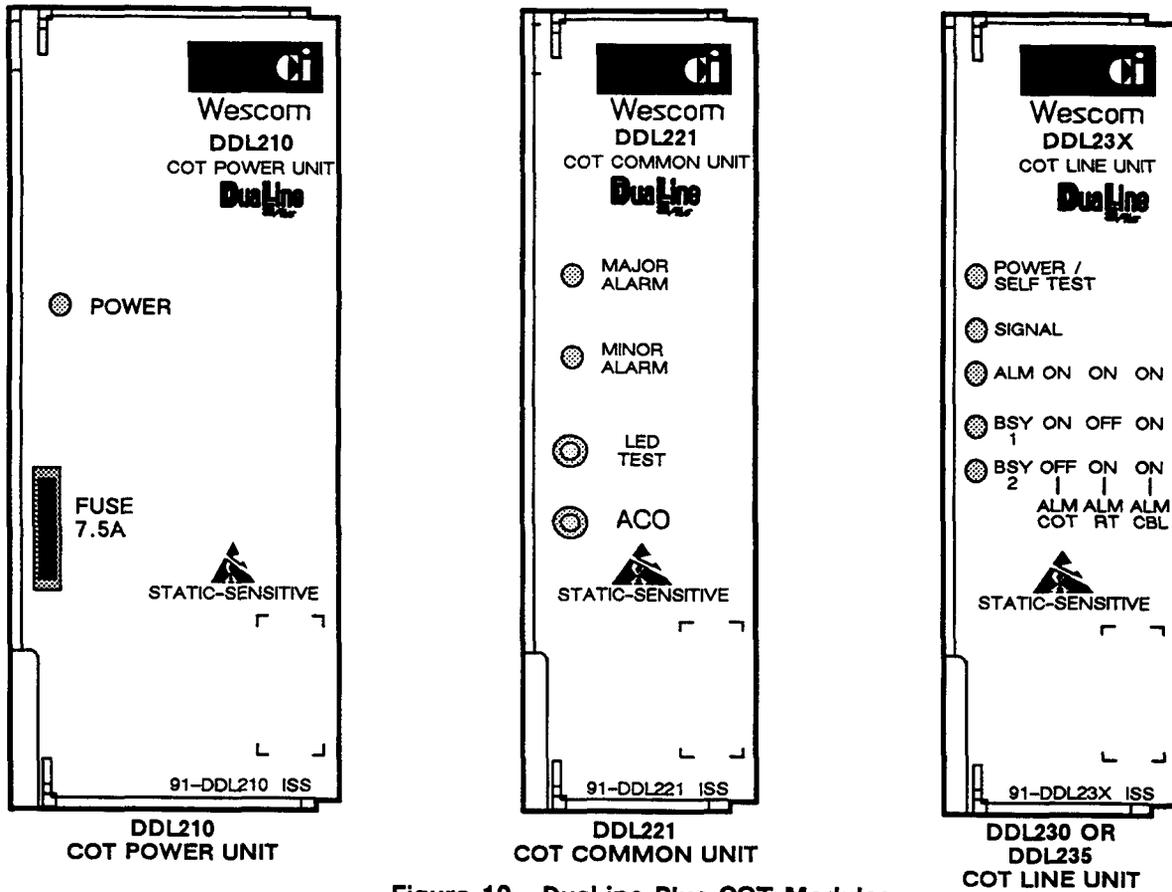

Figure 10. DualLine Plus COT Modules
There are three types of DualLine Plus modules used in the COT shelf; DDL210 COT Power Unit, DDL221 COT Common Unit, and DDL23X (DDL230 or DDL235) COT Line Unit (depicted in Figure 10). One COT Common Unit and one COT Power Unit are necessary for each shelf. They can power and control from one to twelve COT Line Units and their respective DDL1XX Remote Terminals (RT) at the subscriber sites. Each COT Line Unit provides the interface between two POTS lines and the DDL1XX RT.
- (b) Insert and seat the COT Power Unit into its slot (see Figures 10 and 11). The POWER LED lights steady. If it does not light, there is a problem with the module or shelf power. Check the COT Power Unit fuse and shelf power at the shelf power terminal strip.
- (c) Insert and seat the COT Common Unit in its slot next to the Power Unit (see Figures 10 and 11).
- (d) Insert and seat the COT Line Units in their assigned slots per facility plan (see Figures 10 and 11). The POWER/SELF TEST LED of each module lights steady. If the POWER/SELF TEST LED blinks continuously (self test fail) or does not light for any COT Line Unit, replace that module.